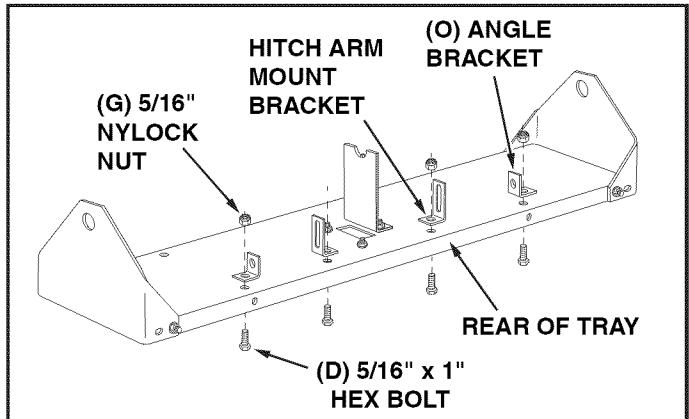

FIGURE 2
3. Turn the tray upside down as shown in figure 2 so that the rear of the tray (four holes in the bottom) is facing you. Assemble two hitch arm mount brackets and two angle brackets (O) to the bottom of the tray using four 5/16" x 1" hex bolts (D) and 5/16" nylock nuts (G). **Do not tighten completely.** See figure 2.